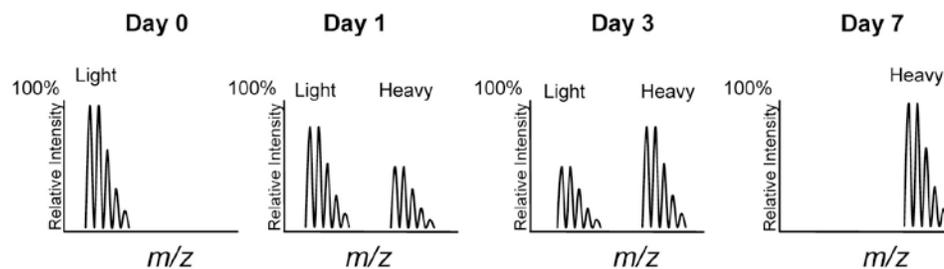

Figure 2. Schematic of label incorporation time course.
3. After five cell doublings, incorporation of heavy L-lysine and/or L-arginine should be > 95% (Figure 2). Harvest 10⁶ cells from each sample (light and heavy) to determine incorporation efficiency (Section C).